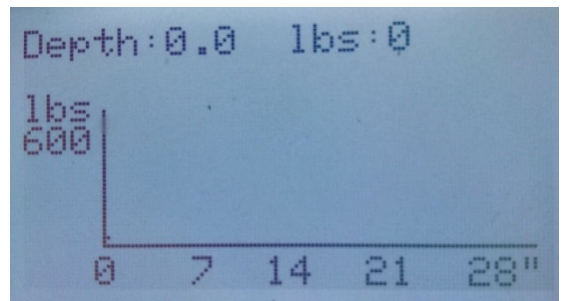

FIGURE 7
8. The screen shown in **Figure 7** will display when the CTS 1000 is ready to be used with the FarmQA phone app.